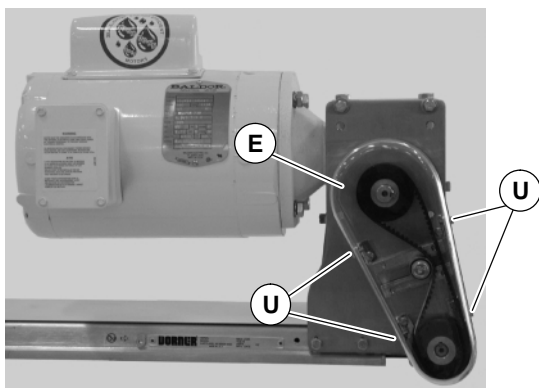

Figure 16
1. Loosen four (4) screws (U of Figure 16) and remove cover (E).